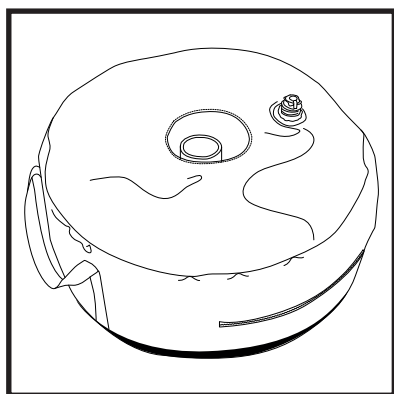

Fig. 14
10. Slip the water weight intended for the pole on the pole (Fig. 14)